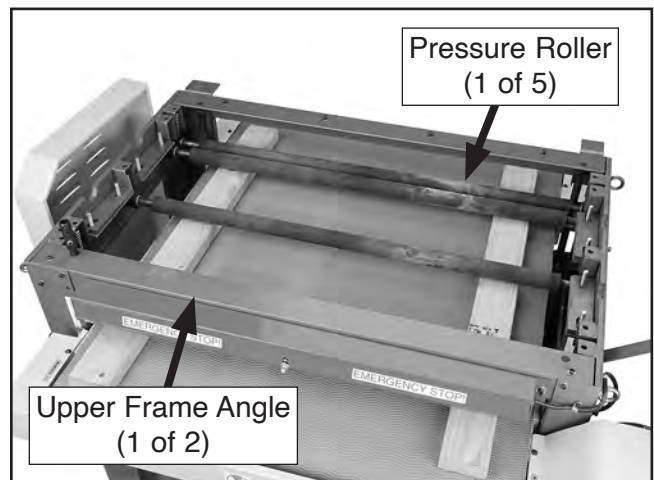

Figure 77. Gauge blocks set under pressure rollers to relieve spring tension.
5. Place gauge blocks face down, as shown in **Figure 77**, raise table to relieve spring pressure on pressure rollers, remove pressure roller nuts, then lower table to remove pressure rollers.
6. Remove front and rear upper frame angles (see **Figure 77**).